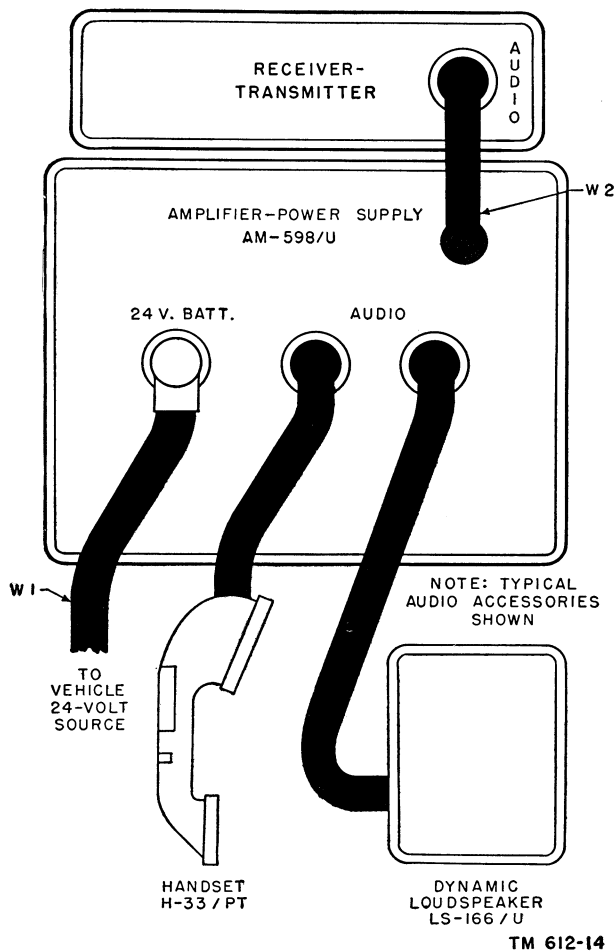

Figure 11. Connection of audio accessories to power supply.
c. Connection of Audio Accessories. Audio accessories are connected to the AUDIO connectors on the front panel of Amplifier-Power Supply AM-598/U (fig. 11). Two audio accessories may be used at the same time. Appropriate audio accessories are included in the vehicular installation kits. The following audio accessories may be used: